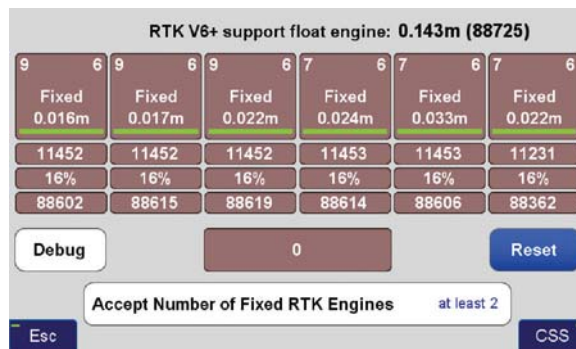

Figure 1 V6+ six RTK Engines
**J-Field** uses six RTK engines (Figure 1) running in parallel plus a support engine to monitor and aid the six engines. Each engine uses a different criteria and mathematical method tailored to resolve ambiguities in different conditions. These six parallel engines not only verify robust solutions but also maximize the possibility of providing solutions in all conditions.
You can manually reset all RTK engines via the V6-RTK engines screen (Figure 1), or assign this reset function to any one of the U1 to U4 hardware